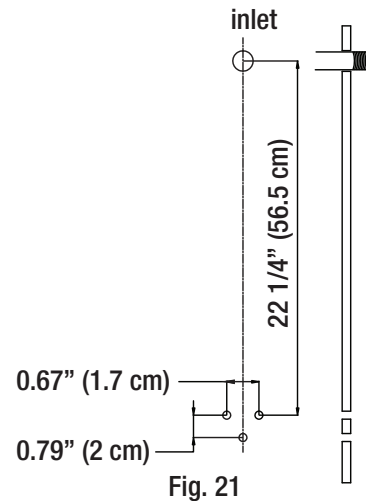

Fig. 21
- Mark the drill holes 1/4" (0.635 cm) (see Fig. 21). The three holes consist of two holes drilled side by side, 0.67" (1.7 cm) apart from the center of each hole with the center line running between them. The third hole is drilled on the center line 0.79" (2 cm) below the first two holes. The upper two holes should be drilled below the shower pipe, 22 1/4" (56.5 cm) from the center of the top two holes to the center of the inlet pipe.